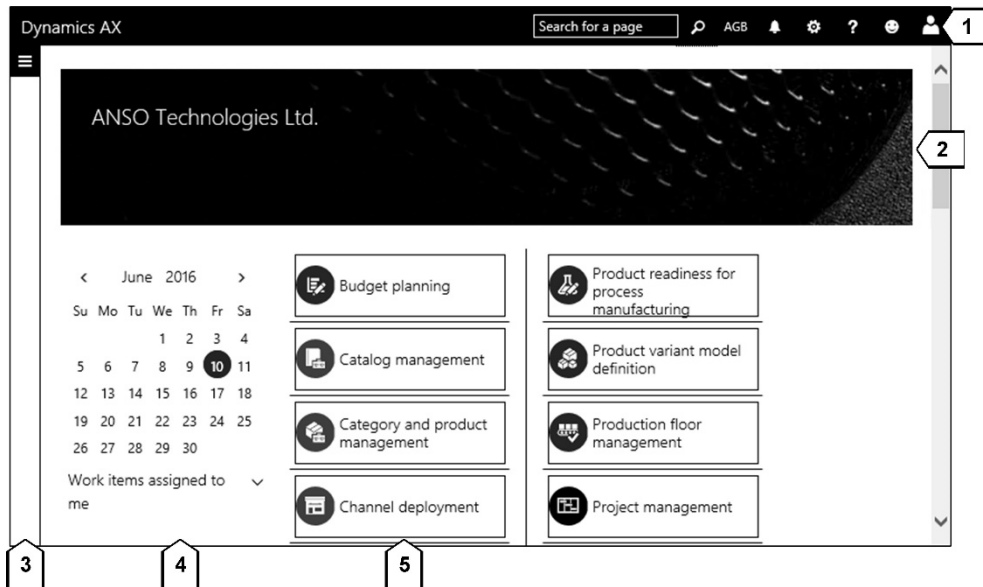

Figure 2-5: Dynamics AX dashboard
As start page in Dynamics AX, the dashboard displays all your workspaces to give an overview of the work you should do by. Clicking a workspace tile, e.g. *Budget planning* in Figure 2-5, provides access to the related workspace.
The default dashboard contains following areas (compare Figure 2-5):
- **Navigation pane** [3] – Collapsed in Figure 2-5